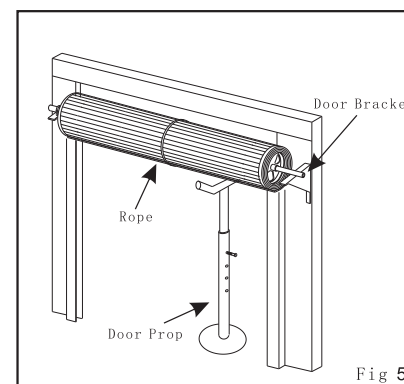

Fig 5
1.1 Roll the door up until the door curtain is out the door guides/tracks and use a rope to firmly tie up the roll in the middle of the door (see **Fig.5**)